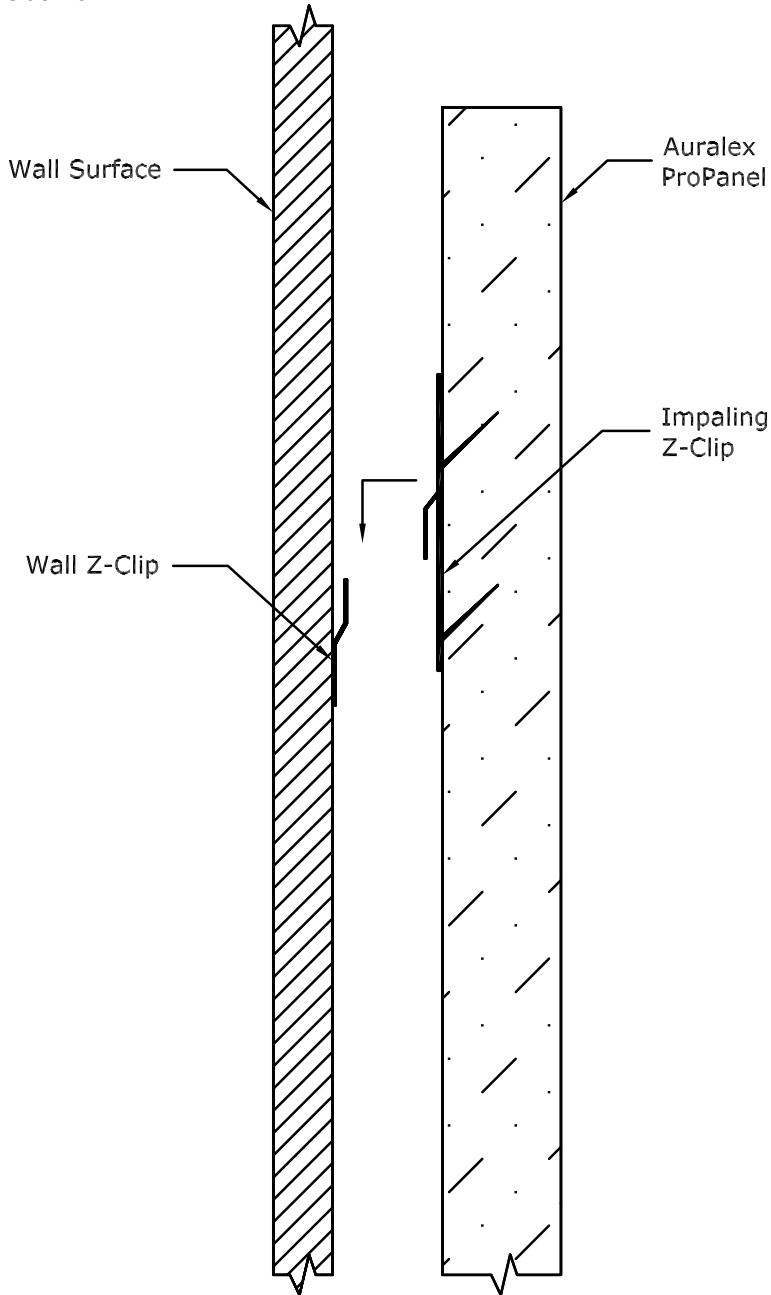

Figure 3.2
2. Install the impaling Z-Clips so they are flush with the backside of the panel using the numbers listed below. The application of Tubetak Pro to the teeth of the impaling clip will add additional support to the panel. (see *Figure 3.2*)